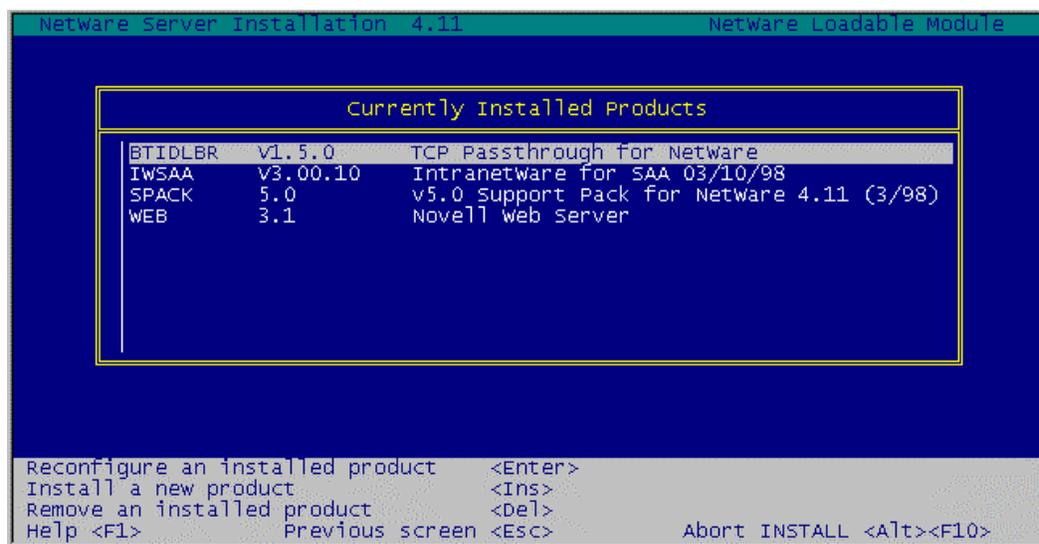

Figure 15-23. Passthrough on Installed Products List
1. Verify the Passthrough application is installed on your server. Load Novell's INSTALL program and display the Currently Installed Products. TCP/IP Passthrough should be listed (Figure 15-23).